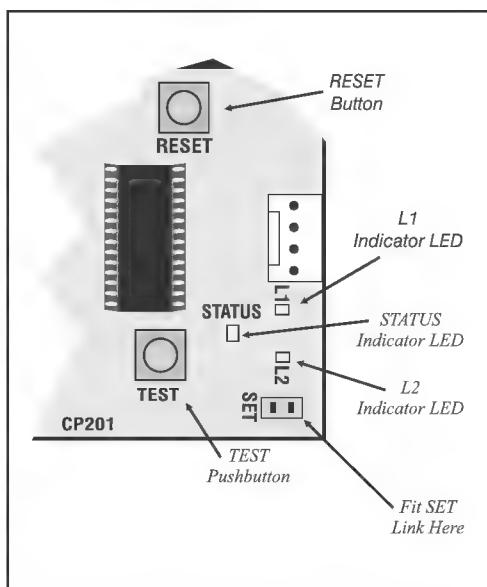

Figure 23 Controller SET Link & Programming LED's
5. Fit the SET link jumper to the SET pins shown in Figure 23.
7. Press and hold the TEST pushbutton (Figure 23) down, for one flash of L1, and then release. L2 will go off, and L1 will now be flashing once per second.
18. **Fit the SET link** jumper to the SET pins as shown in Figure 23.